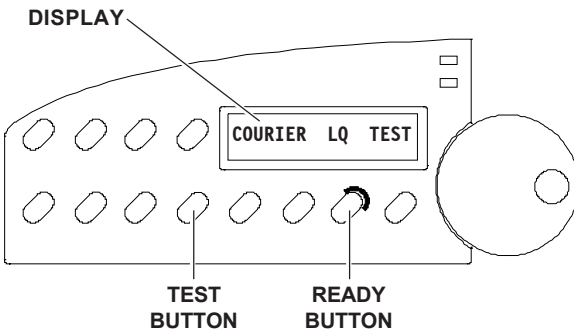

Figure 2-12. Printing a Self Test
3. To print an 8-inch-wide self test, press the Test button, as shown in figure 2-12. (Or, to print a self test that is the width of the WIDTH parameter setting on the Setup menu, press the Test button twice in succession.) The paper will feed into the printer, the TEST message will blink on the control panel, and the self test will begin printing.